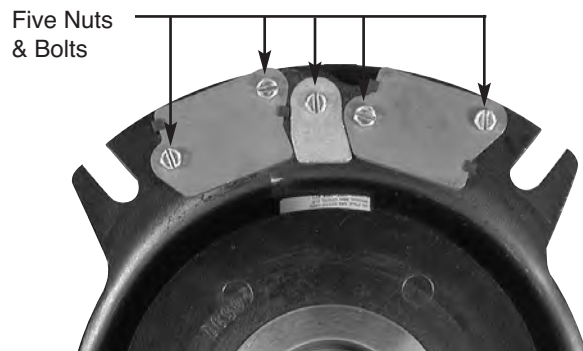

Figure 3
5. Magnets are marked with a white dot on face that should contact clutch brim. Replace old components with new brake pole components: 2 brake poles & 2 magnets, mid pole, 5 nuts and 5 bolts. (See Figure 3) Install with bolt, nut and lockwasher. Tighten bolts by hand, and then tighten bolts evenly with wrench.